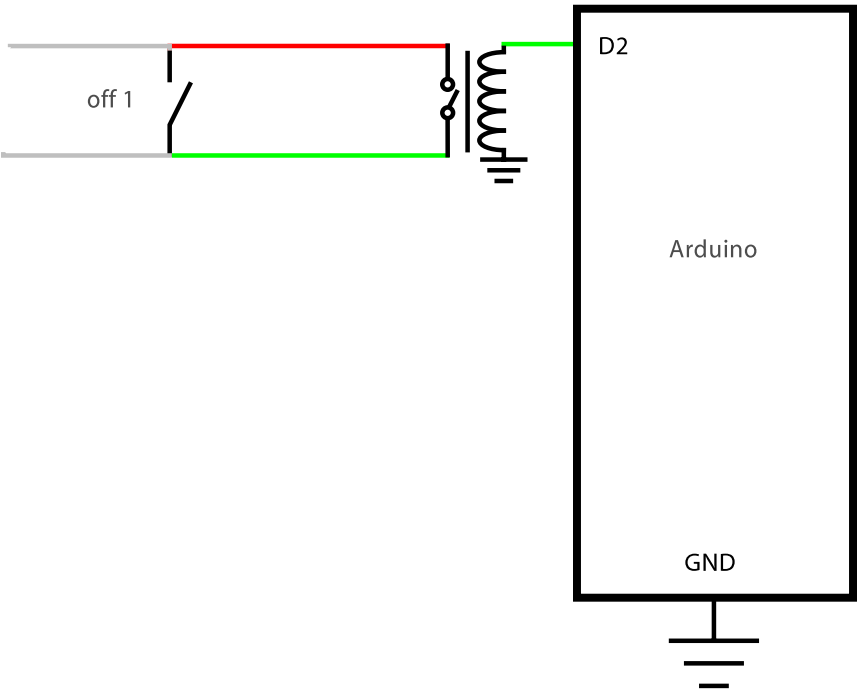

Figure 7-19. Circuit diagram
3. Now, connect the device you want to control to the relay. Locate the off button for the remote control’s first outlet, and connect that button’s wires to relay pins 7 and 8 (the second from the right and the middle, respectively, in the bottom row). The relay is just a controllable switch and is not polarized, so you can connect the wires either way. Figure 7-19 shows the circuit diagram.